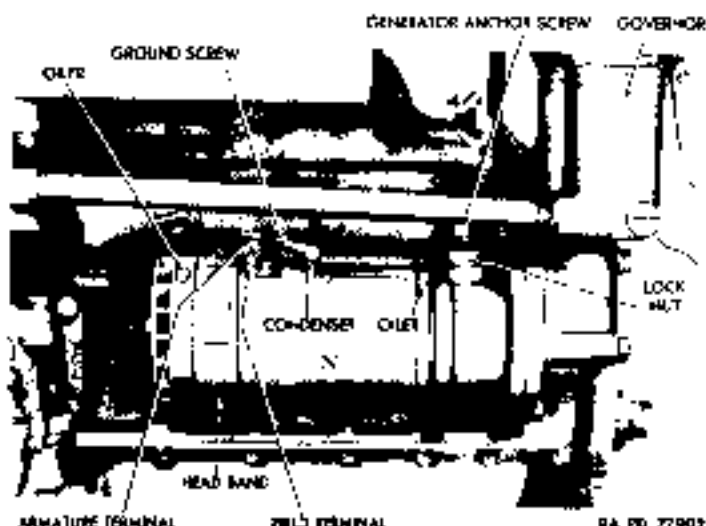
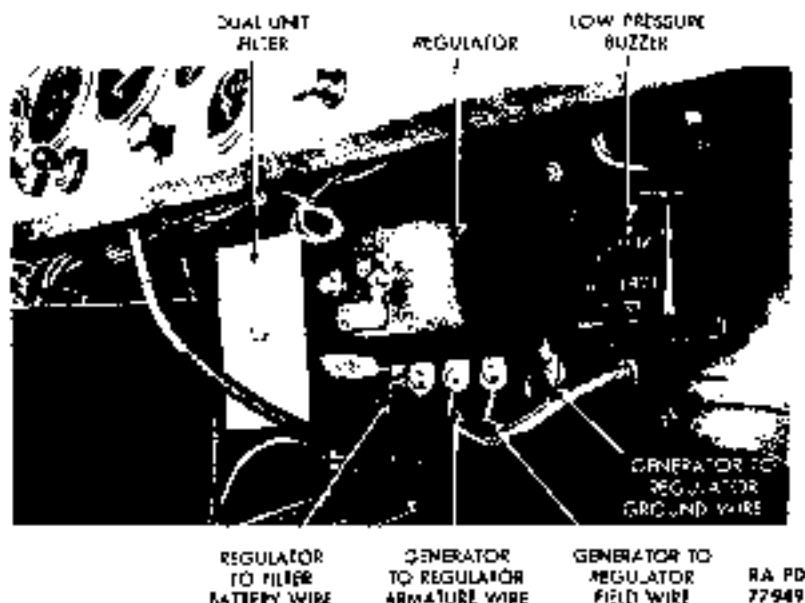

Figure 48 — Generator Installed
Figure 49 -- Generator Regulator Installed
(1) **DESCRIPTION** (fig. 48). The heavy-duty two-brush type 6-volt generator is located at the right front of the engine between engine and frame side rail. It is accessible through the splash shield opening under the right front fender, and is gear driven from the engine gear case. The generator furnishes electrical energy to keep batteries charged, and to operate the electrical system.
(1) **INSPECT GENERATOR.** Remove generator head band (fig. 48). Note condition of commutator. If dirty or discolored, clean commutator (step (2) below). If commutator is rough, out of round, or if it has high mica, notify higher authority. Hook a spring scale to brush holder lever, pull scale at right angles to holder, and note reading as holder lifts from brush. If not within the limits of 64 to 68 ounces, notify higher authority. Inspect brushes, and if worn to one-half the original length, replace brushes (step (3) below). Check brush lead connections to be sure they are clean and tight. Replace head band.
(3) **DETACH GENERATOR** (fig. 48). Loosen lock nut and generator anchor screw, and work generator back carefully until gears are out of mesh. Lift generator from engine.
(2) **ATTACH GENERATOR TO ENGINE** (fig. 48). Insert generator into engine opening, and carefully work gear into mesh with camshaft and governor gears. Tighten anchor screw and lock nut.
(4) **POLARIZE GENERATOR**. Momentarily connect a jumper wire between armature terminals of generator (fig. 48), and voltage regulator (fig. 49), then remove jumper wire.
(1) **DESCRIPTION** (fig. 49). The generator current and voltage regulator is mounted in driver's compartment on dash under center of instrument panel, and is composed of three units: Circuit breaker, current limiting regulator, and voltage regulator.
(2) TABULATED DATA.
(1) **DISCONNECT WIRES** (fig. 49). Disconnect all four wires from regulator terminals. *NOTE. Tag wires to facilitate installation.*
(2) **DETACH REGULATOR FROM DASH** (fig. 49). Remove the two screws, lock washers, and bonding washers which attach top corners of regulator to dash. Have one man work through radiator filler door to keep nuts from turning, while another man removes bolts which attach bottom corners of regulator to dash. Remove lock washers, and lift regulator from dash.
(1) **ATTACH REGULATOR TO DASH** (fig. 49). Position regulator on dash with terminals down. Install bonding washers between regulator and dash, lock washers, and screws which attach upper corners of regulator to dash. Insert bolts which attach lower corners of unit to dash through regulator and dash. Hold bolts rigid while another
(2) **CONNECT WIRES** (fig. 49). Connect wires to regulator as follows: Blue wire from generator armature terminal to armature terminal, yellow wire from generator field terminal to field terminal, green wire from supply filter to battery terminal, black wire from generator ground screw to ground terminal.